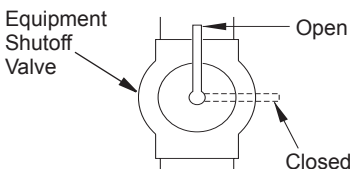

Figure 14 - Equipment Shutoff Valve
1. Close equipment shutoff valve (see Figure 14).
1. Open equipment shutoff valve (see Figure 14).
3. Close equipment shutoff valve (see Figure 14, page 15).